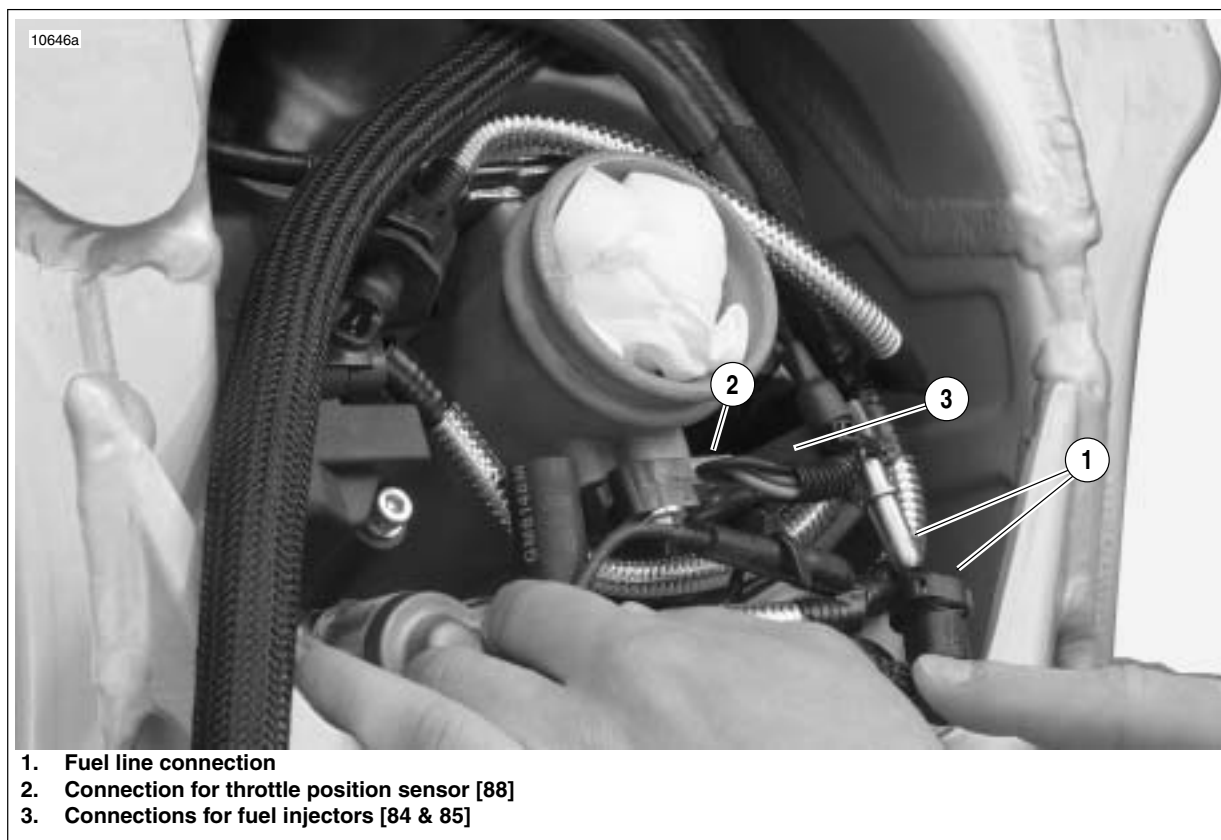

Figure 3-1. Fuel Line and DDFI Electrical Connections (Typical)
7. See Figure 3-1. Disconnect fuel line (1).
8. Disconnect the throttle position sensor (2) [88].
9. Disconnect the fuel injector leads (3) [84 & 85].